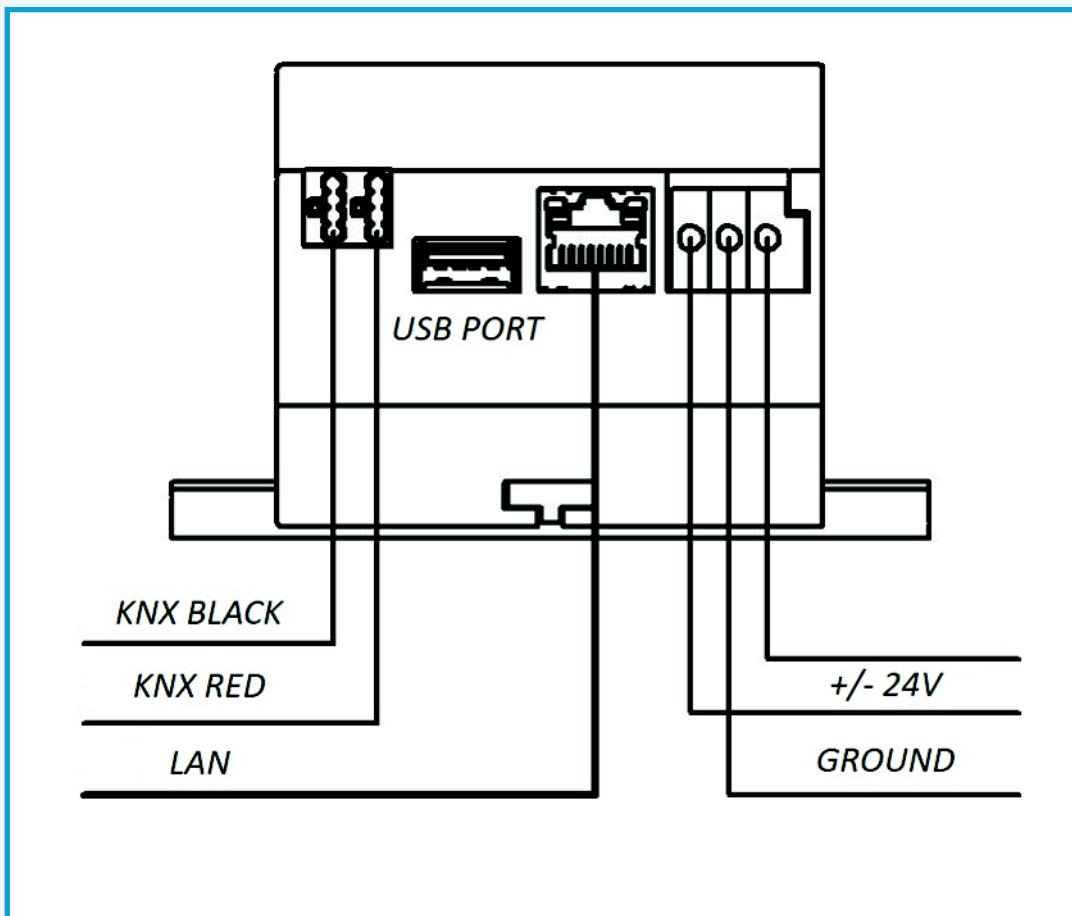

Figure 6.2 - Connecting the controller
- 6.4 Controller is connected according to the schematic shown in Figure 6.2. The polarity of the voltage is not important. Cross-section of cable for power connections must be not more than 2mm^2 (14AWG). To connect the KNX use single-core cable with a cross-section of no more than 0.52mm^2 (20 AWG).